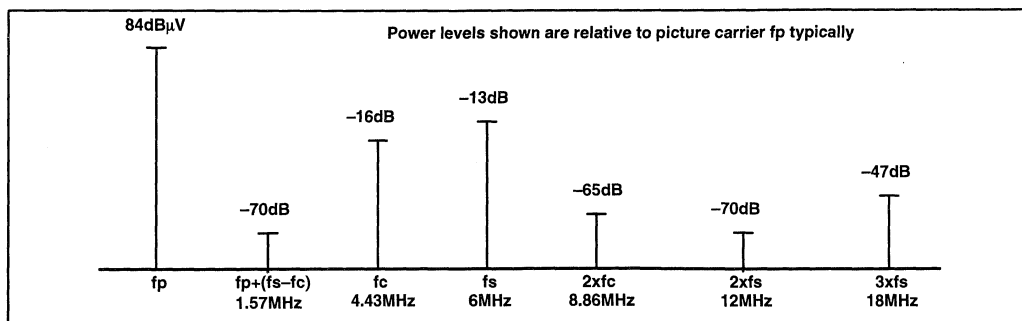
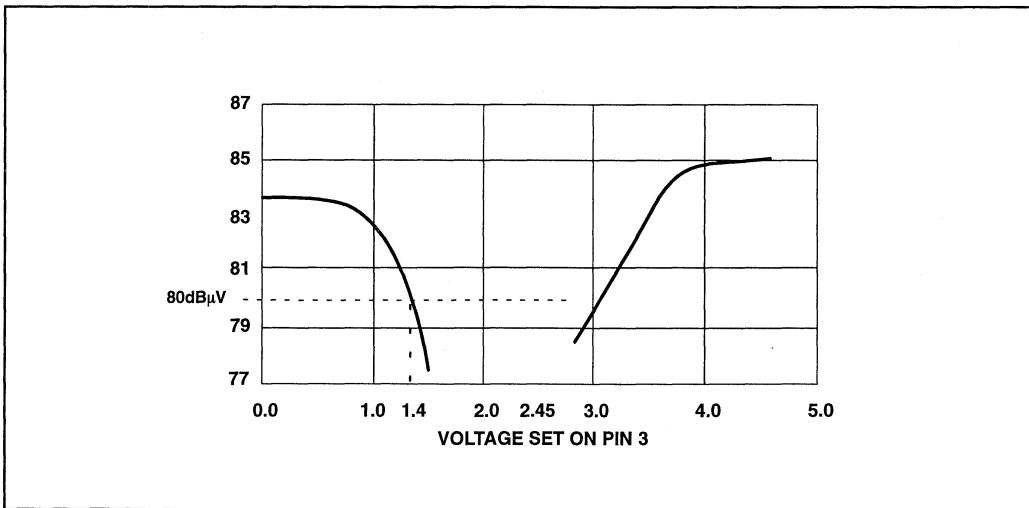

Fig. 3 Frequency spectrum above the Video picture carrier ($Q_{TANK} = 9$)
Fig. 4. Picture carrier, unmodulated RF output level
- May be increased by use of external resistor, see Fig. 3
Pin 3 (MOD INDEX) is used to control both RF carrier amplitude and video polarity, see Fig. 3. Since the video input is internally AGC'd, varying the carrier amplitude will also adjust the video modulation index, see Fig. 4.
For example, for a negative modulation (PAL or NTSC) with an 80% modulation index, pin 3 should be set to 1.1Volts (see Fig. 4). This voltage corresponds to an unmodulated RF output level of 82dBμV, see Fig. 3.